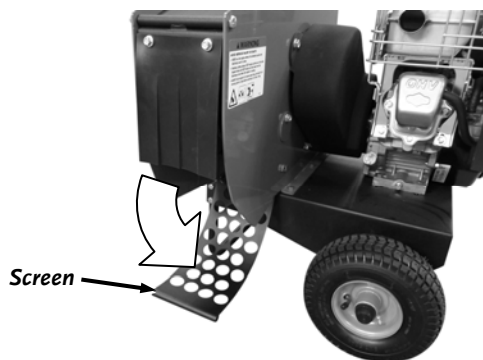

Figure 27
2. Rotate the Screen down to gain access to the Cutting Chamber (Figure 27).